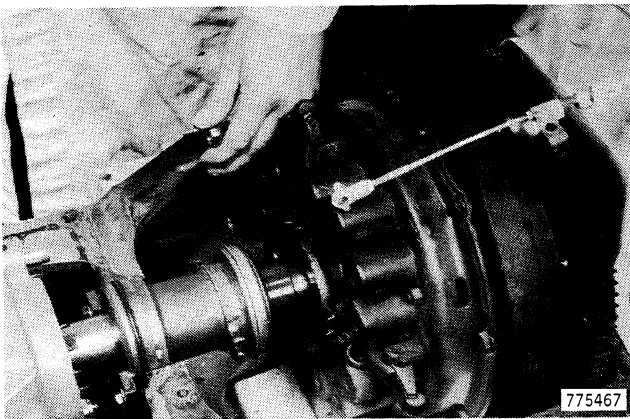

Figure 50
- 53. Remove the four inner cap screws that hold the front and rear housings together, Figure 50.